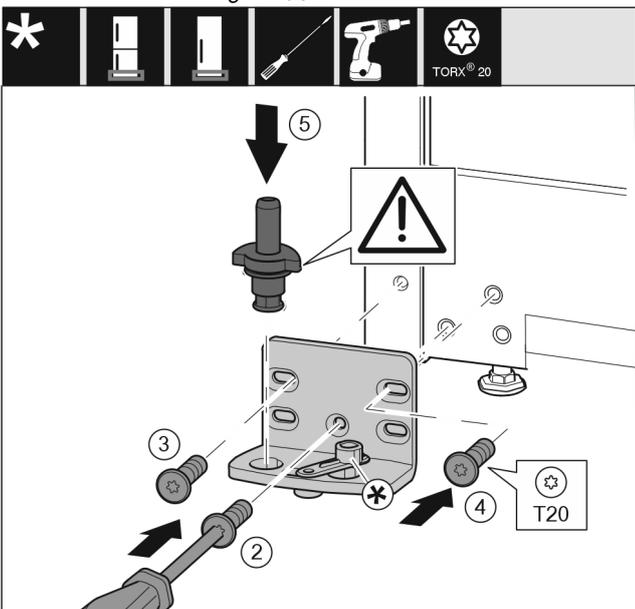

Fig. 19
- ▶ Place the bearing bracket on the other side and screw it on with a T20 screwdriver. Start with screw 2 at the bottom in the middle. Fig. 19 (2)
- ▶ Screw in screws 3 and 4 tightly. Fig. 19 (3,4)
- ▶ Insert the bearing pin completely. Make sure that the latching lug is pointing to the rear. Fig. 19 (5)